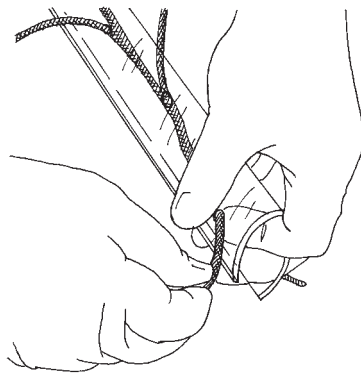

fig 8
5. Unroll the connective tissue and lift the suspension tube out and discard the remains of the old vein **fig 8**.